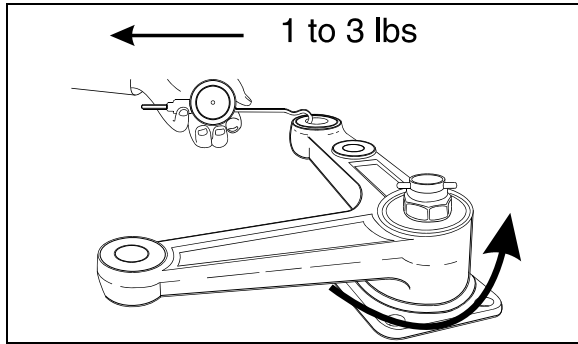

FIGURE 19: BELL CRANK
11. Unscrew nut until bell crank or idler arm starts to turn with the application of 1 to 3 lbf load as shown on figure 19.